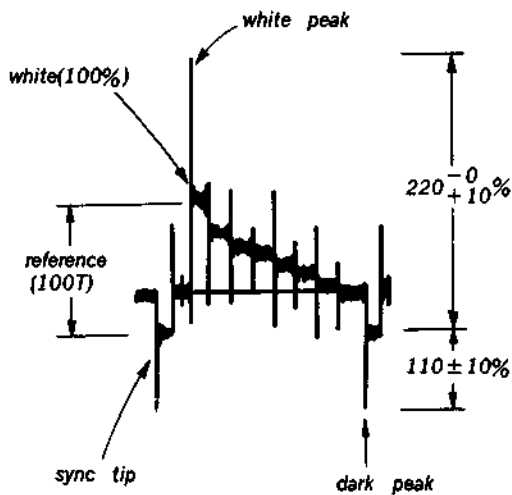

Fig. 5-15. Dark clip and white clip adjustment
- (1) Set up the Super Beta PRO mode and adjust to white peak $220^{+0}_{-10} \%$ with RV010 (See Fig. 5-15)
- (1) Set up the Super Beta PRO mode and adjust to Sync peak $110 \pm 10\%$ with RV009 (See Fig. 5-15)